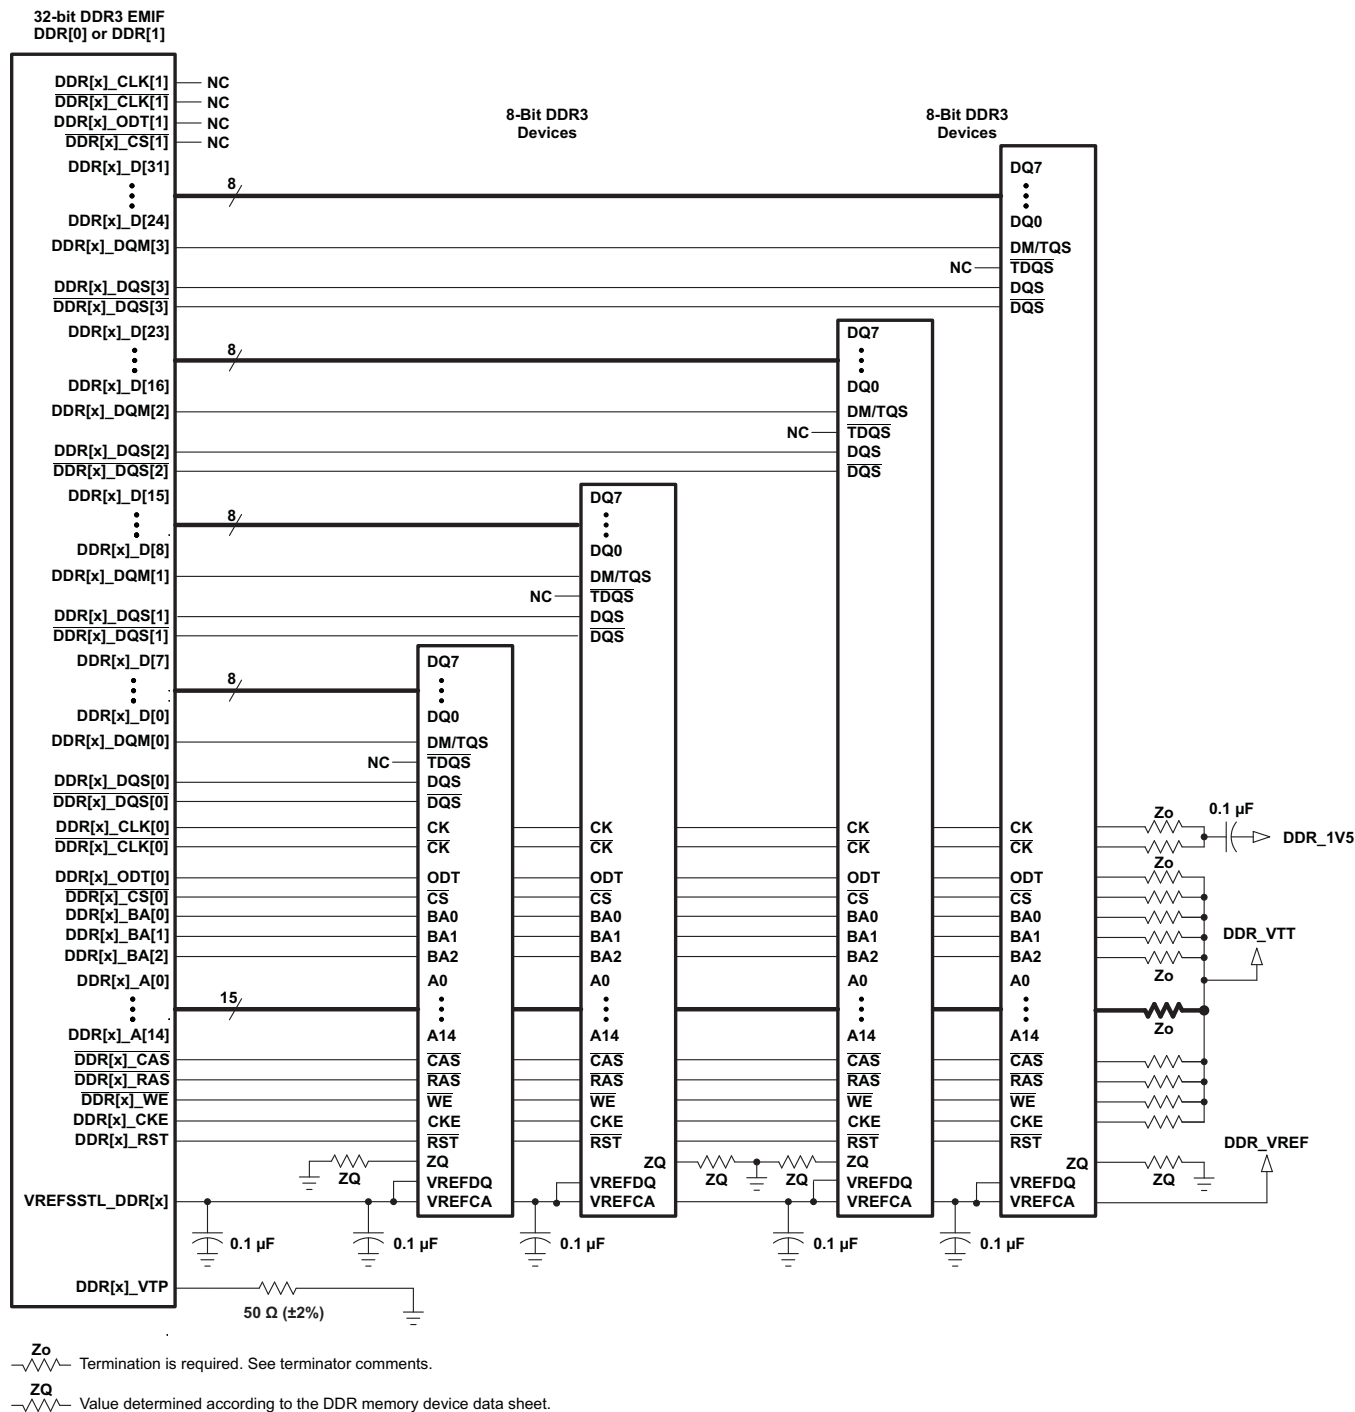

Figure 9-14. 32-Bit, One-Bank DDR3 Interface Schematic Using Four 8-Bit DDR3 Devices
The DDR3 interface schematic varies, depending upon the width of the DDR3 devices used and the width of the bus used (16 or 32 bits). General connectivity is straightforward and very similar. 16-bit DDR devices look like two 8-bit devices. Figure 9-13 and Figure 9-14 show the schematic connections for 32-bit interfaces using x16 devices.
Note that the 16-bit wide interface schematic is practically identical to the 32-bit interface (see Figure 9-13 and Figure 9-14); only the high-word DDR memories are removed and the unused DQS inputs are tied off. The processor DDR[x]_DQS[2] and DDR[x]_DQS[3] pins should be pulled to the DDR supply via 1-k Ω resistors. Similarly, the $\overline{\text{DDR}}[\text{x}]_{\text{DQS}}[2]$ and $\overline{\text{DDR}}[\text{x}]_{\text{DQS}}[3]$ pins should be pulled to ground via 1-k Ω resistors.
(1) DDR3 speed grade depends on desired clock rate. Data rate is 2x the clock rate. For DDR3-1600, the clock rate is 800 MHz.
(2) For valid DDR3 device configurations and device counts, see Section 9.3.2.3, Figure 9-13, and Figure 9-14.